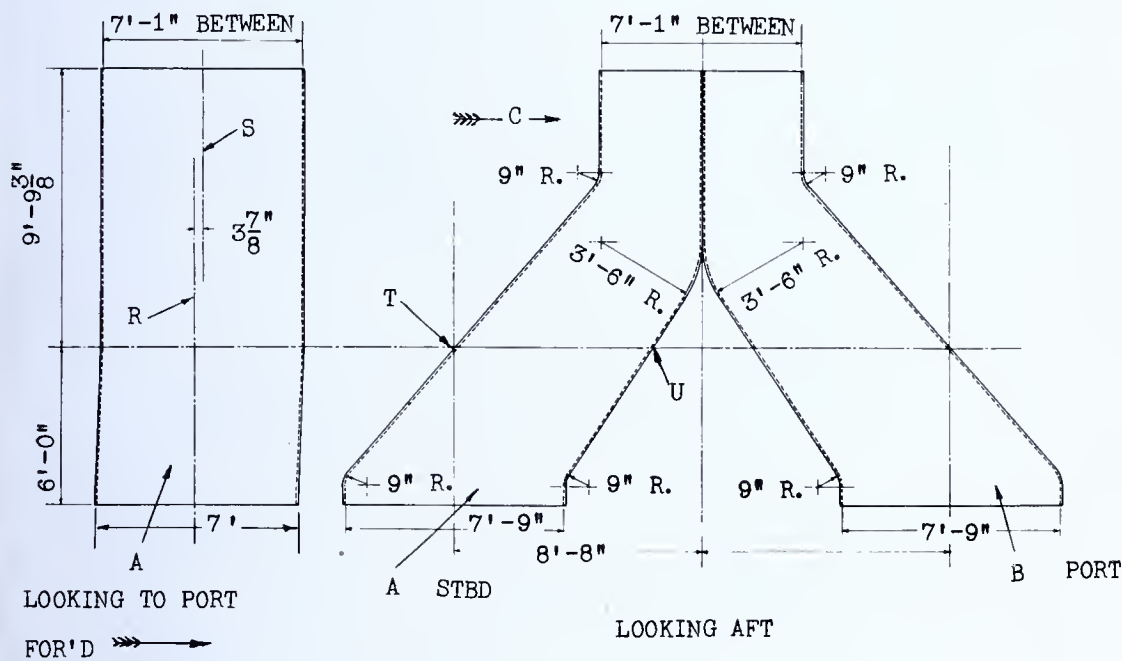
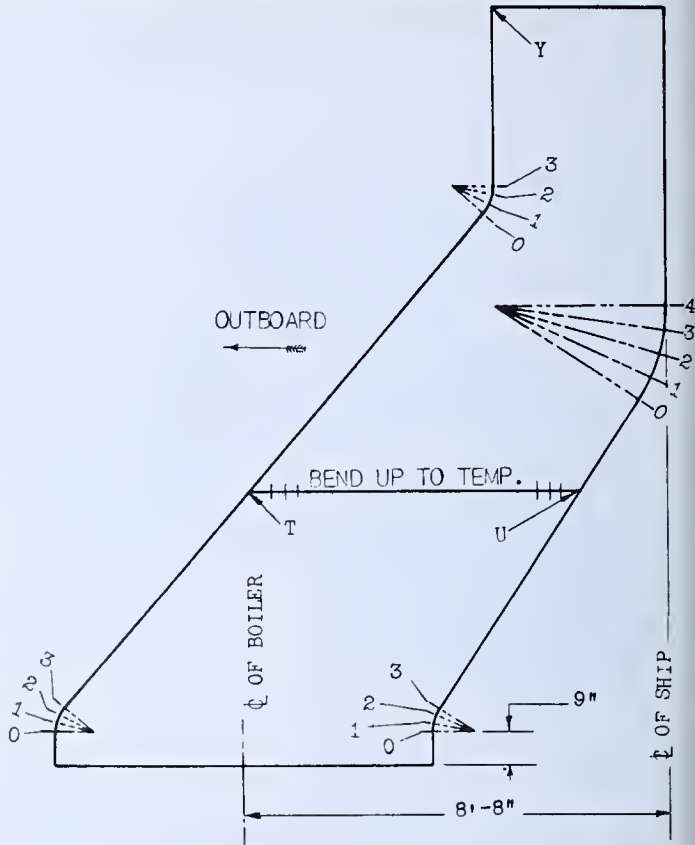
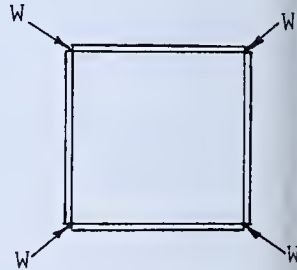
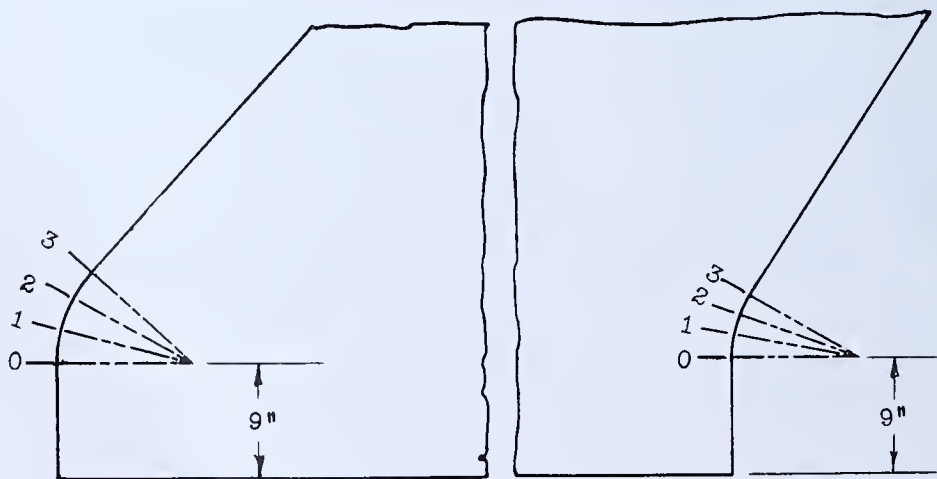

FIG. 335 — *As the Blueprint Shows the Uptake*
FIG. 336 — Full-Size Layout
FIG. 337
FIG. 345 — *Enlarged View of Base of Uptake Layout in Fig. 336*
- 1. Make a full-size layout of the forward, starboard side of the uptake as shown in Fig. 336.
The four members of the uptake which are shaped like this piece can be made from the same template. When making this layout, work to the dimensions given in Fig. 335. The corners where the plates come together do not lap but are made to meet as shown in Fig. 337.
The measurements for the “Bend up to Temp.” line in Figs. 336 and 341 are found on the detail drawing. Figure 342 shows the offset in the view “Looking to Port”, Fig. 335. Figure 344 is the layout for the left-end view shown in Fig. 335.
- h. Refer to Fig. 335. Lay off and scribe all radii as indicated on the blueprint.
- j. Connect the intersection  $T$  with the 9" radius 3 in Fig. 336, bottom left.
- k. Connect the intersection  $T$  with the 9" radius 0 in Fig. 336, upper left.
- l. Connect the intersection  $Y$  with the 9" radius 3 in Fig. 336, upper left.
- m. Measure on the layout (Fig. 355) distance  $T-U$  and transfer the measurement to Fig. 336,  $T-U$ .
- n. Connect the intersection  $U$  with the 9" radius 3 in Fig. 336, lower right.
- o. Connect the intersection  $U$  with the 3'-6" radius 0 in Fig. 336, upper right.
- p. Step off spaces on all radii as shown in Fig. 336, and scribe radius lines as shown.
- g. Wheel the layout from radial line *o* to radial line 3 in Fig. 336 at the lower left.
- (1) Line *O* is 9" from the base line.
- (2) The location of line *1* is found by wheeling the distance from line *O* to line *1* on the curve. See Fig. 345.
- (3) The location of lines *2* and *3* are found by wheeling on the curve as in Step 2.
- (4) The location of the bend line is found by measuring from radial line *3* to intersection *T* in Fig. 336. Transfer this distance (*b*) to Fig. 343.
- (5) The location of line *O* (upper end) in Fig. 343 is found by measuring from intersection *T* to *O* (upper end) in Fig. 336.
Layout in Fig. 336*
- (7) The location of the top line in Fig. 343 is found by measuring in Fig. 336 from radial line 3 to the top.
If these measurements from Step 1 through Step 7 are taken carefully according to instructions, the flat plate, when formed on the horizontal lines, will fit against the outboard-starboard side of the uptake shown in Fig. 335. The same layout, but with the plate formed in the opposite direction, will produce a shape that will fit against the outboard-port side of the uptake shown in Fig. 335.